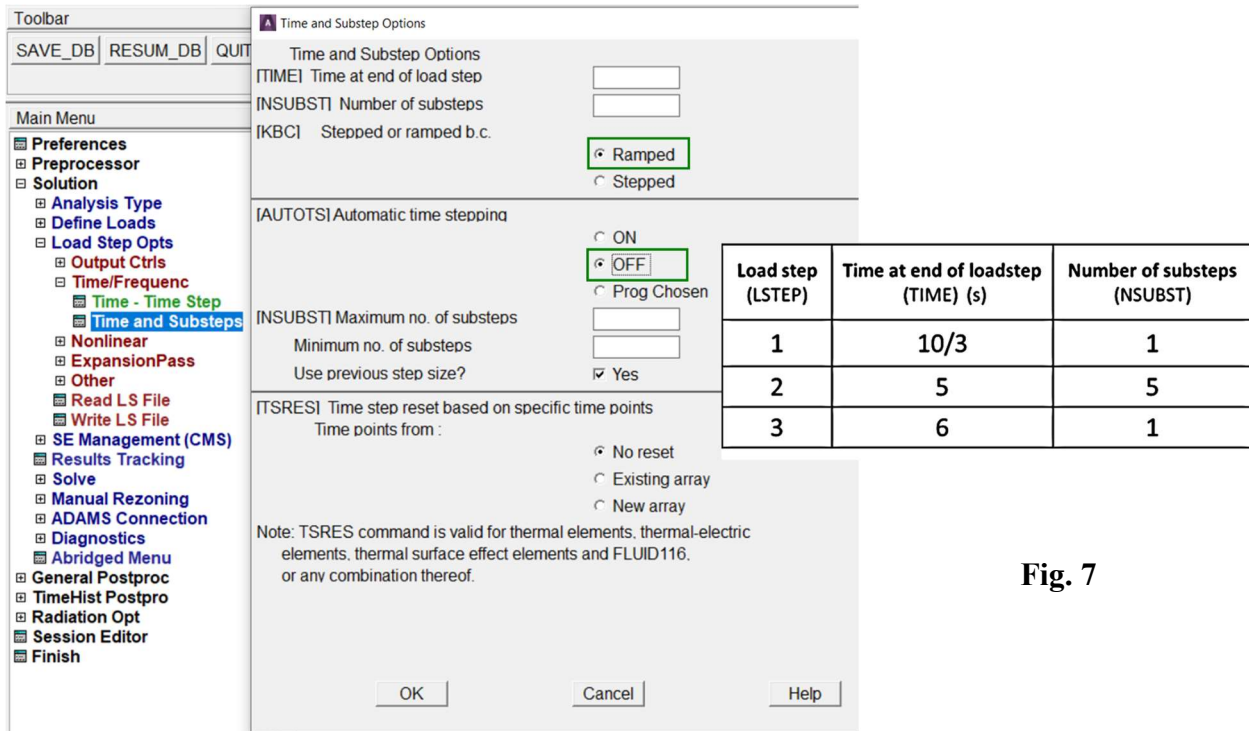
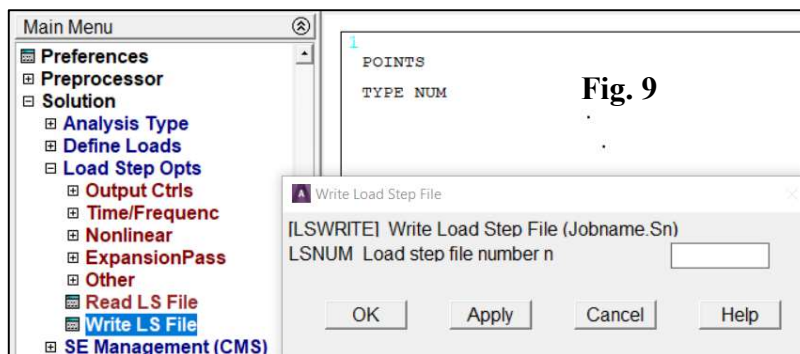

Fig. 7
Fig. 9
- apply  $p = 10/3$  MPa, specify TIME, NSUBST, FREQ (Fig. 7 and 8), and LSNUM = 1 (Fig. 9),